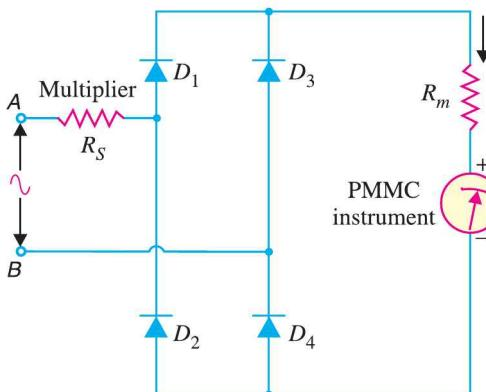
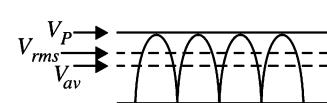

Fig. 22.18
Fig. 22.19
**Circuit details.** Fig. 22.18 shows bridge rectifier voltmeter for the measurement of a.c. voltages. A multiplier resistor  $R_s$  is connected in \*\*series with the PMMC instrument having resistance  $R_m$ . When a.c. voltage to be measured is applied to the circuit, full-wave rectification will be obtained as shown in Fig. 22.19. The meter deflection will be proportional to the †average current. Since there is a definite relationship between the average value and r.m.s. value of a sine-wave (r.m.s. value =  $1.11 \times$  average value), the meter scale can be calibrated to read the r.m.s. value directly.